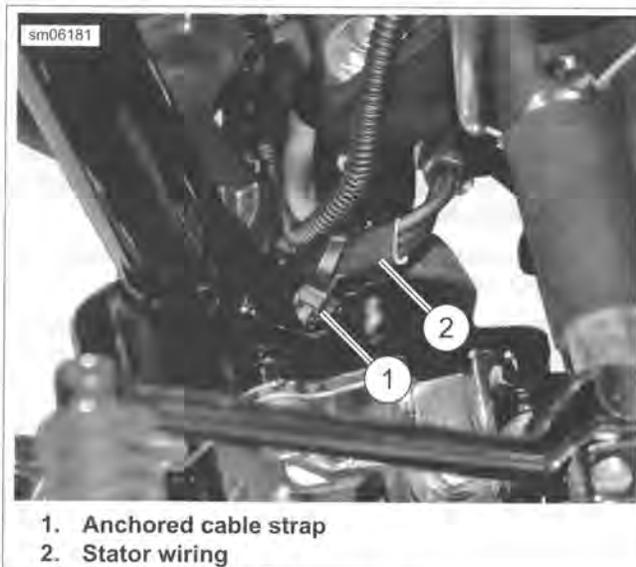

Figure 7-68. Stator Wiring
5. See Figure 7-68. Install **new** anchored cable strap (1) on stator wiring (2). Push anchor into hole in frame.